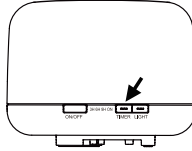

Fig 8
8. **TIMER** – you can set the unit to work for 3h, 6h, 9h, ON, OFF when consecutively pressing the button. (Fig 8)